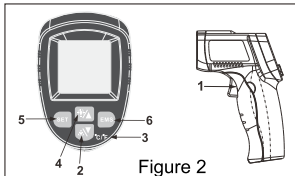

Figure 2
- 2). Diagram description: (figure 2)